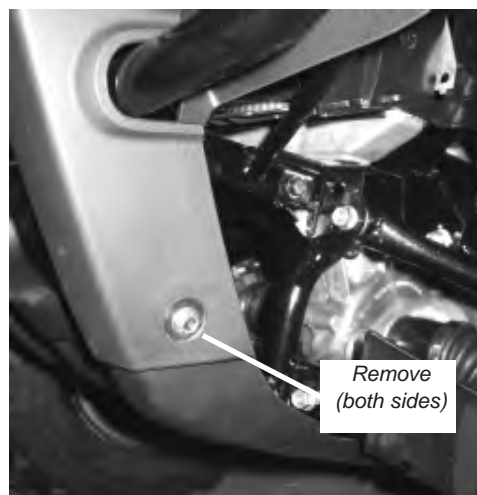

Figure 2 Remove Front Fascia
2. Remove the two side 6mm bolts securing the front fascia, figure 2. Save the fasteners as they will be used later to reinstall the front fascia. Remove the front plastic fascia.